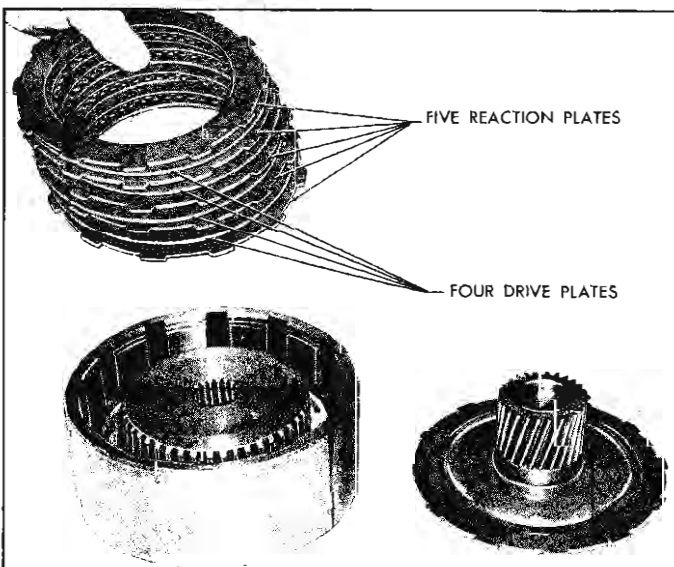

Fig. 27—Installing Clutch Drum Plates
6. Install the five steel reaction plates and four faced plates alternately, beginning with a steel reaction plate (fig. 27).